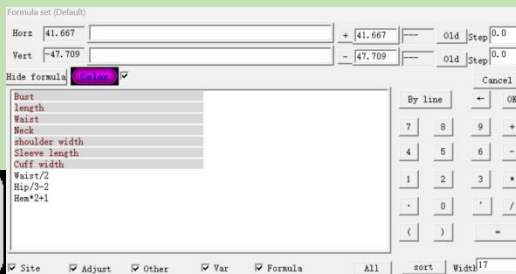

Figure4-3
a. If a formula is needed from the size chart, click . The system will display the dialog box as shown in Figure 4-3 above, Select the formula. You can also input any value in the parameter column and then input the size increment after the box. (Note: No size increment needs to be input when calling a formula.) , If it is an unequal size increment, click . For the point picked on line, you can select a reference ratio. A mantissa can be added or subtracted after the ratio. The input methods for all partial parameters are the same.